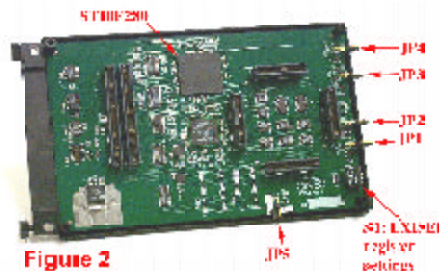
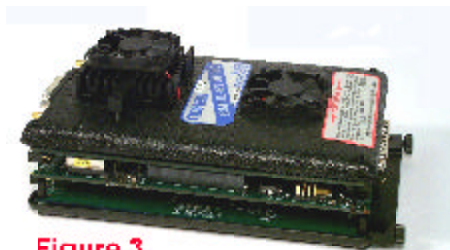

Figure 2
Figure 3
A daughtercard containing a production F280 is plugged into the emulator board of the EMUL-ST10. Figure 2 shows the F280 daughtercard. Figure 3 shows it installed in the emulator.
- Install the daughtercard in Figure 3.